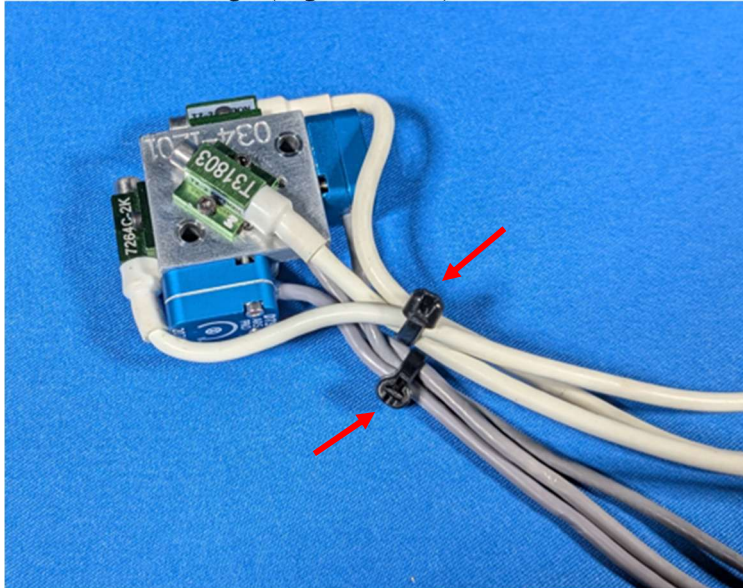

Figure 13-15. Wiring for the head accel/ARS mount
- 13.4.1.2 After installing three accelerometers and three ARSs on the 6-axis Accelerometer/ARS Mount (SA572-S87), gather the wiring from the three accelerometers and bundle with a tie-wrap. Do the same for the three ARS sensors, leaving enough slack so that the wires don't turn sharply from the base of each sensor and cause damage (Figure 13-15).